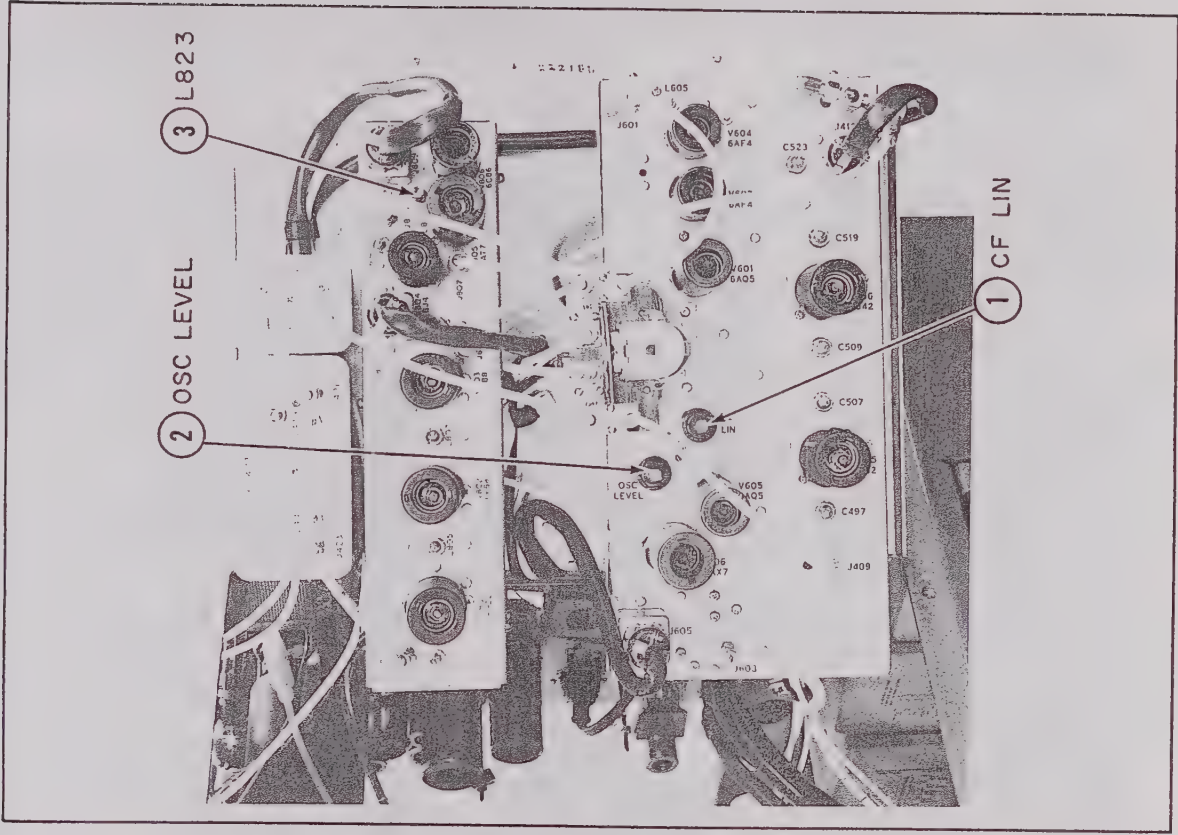

Figure V-3b. 160 MC IF Amplifier (Top View)
1. **CF LIN.** This control is located on the wideband i-f amplifier chassis, (Fig. V-3b, Ref. 1). It is used in conjunction with the front panel 70 MC SWEEP WIDTH screwdriver adjust control. Using the marker dial calibration as a reference, these two controls should be adjusted to give best linearity of the 70 MC sweep.
2. **OSC LEVEL.** This control is located on the wideband i-f chassis, (Fig. V-3b, Ref. 2). It is used to set the operating level of the 160 MC